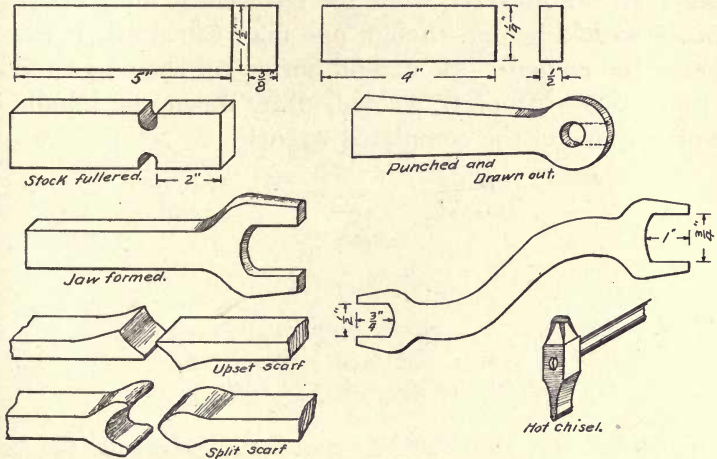

FIG. 204.—STEPS IN MAKING A WRENCH.
2. **Punching.** — Punch a  $\frac{1}{2}''$  hole in the center, and with a hot chisel cut a piece out of the end along the dotted lines (Fig. 204). A hot chisel is made for cutting hot iron, while a cold chisel is made for cutting cold iron. The hot chisel is tempered the same as the cold